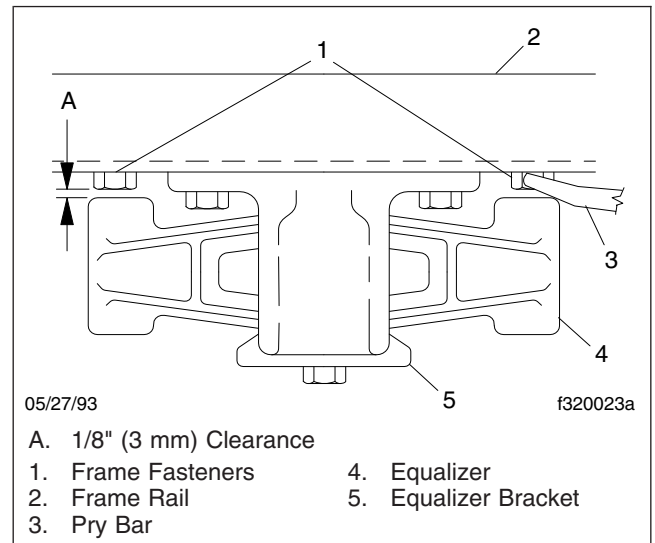

Fig. 5, Top View of the Equalizer
- With the vehicle unloaded, attempt to move the equalizer side to side, using a pry bar between the equalizer and frame rail. Apply hand pressure only. See **Fig. 5**. If clearance between the equalizer assembly and any frame component or fastener is less than 1/8 inch (3 mm), replace the equalizer bushings. See **Group 32** of the *Columbia® Workshop Manual* for instructions.